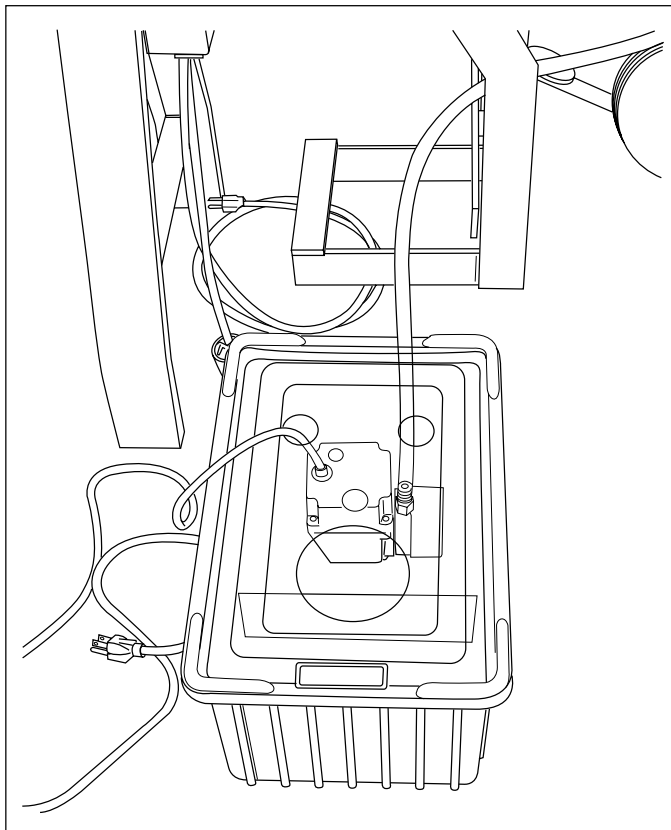
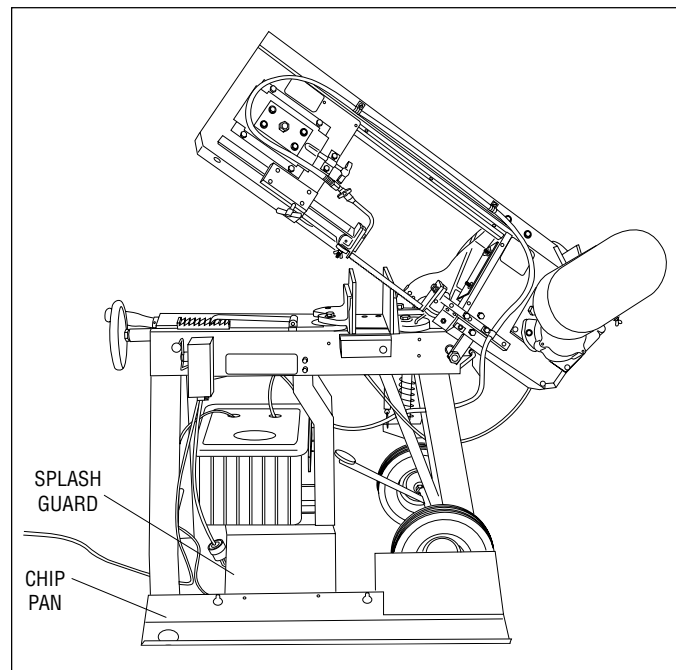

Figure 7
Figure 8
7. See Figure 7. Route the coolant hose between the rear legs and through the coolant tank cover. Attach the hose to the coolant pump and secure it with a hose clamp.
9. Attach the splash guard to the chip pan with two #10 - 32 x 1/2 round head machine screws (17), lockwashers (18), and hex nuts (19).
10. See Figure 8. Attach the chip pan and splash guard assembly to the saw with two 1/4 - 20 x 1/2 thumb screws (15) and washers (16). Attach one thumb screw at the tank mounting bracket and the other at the hole drilled in Step 4A.